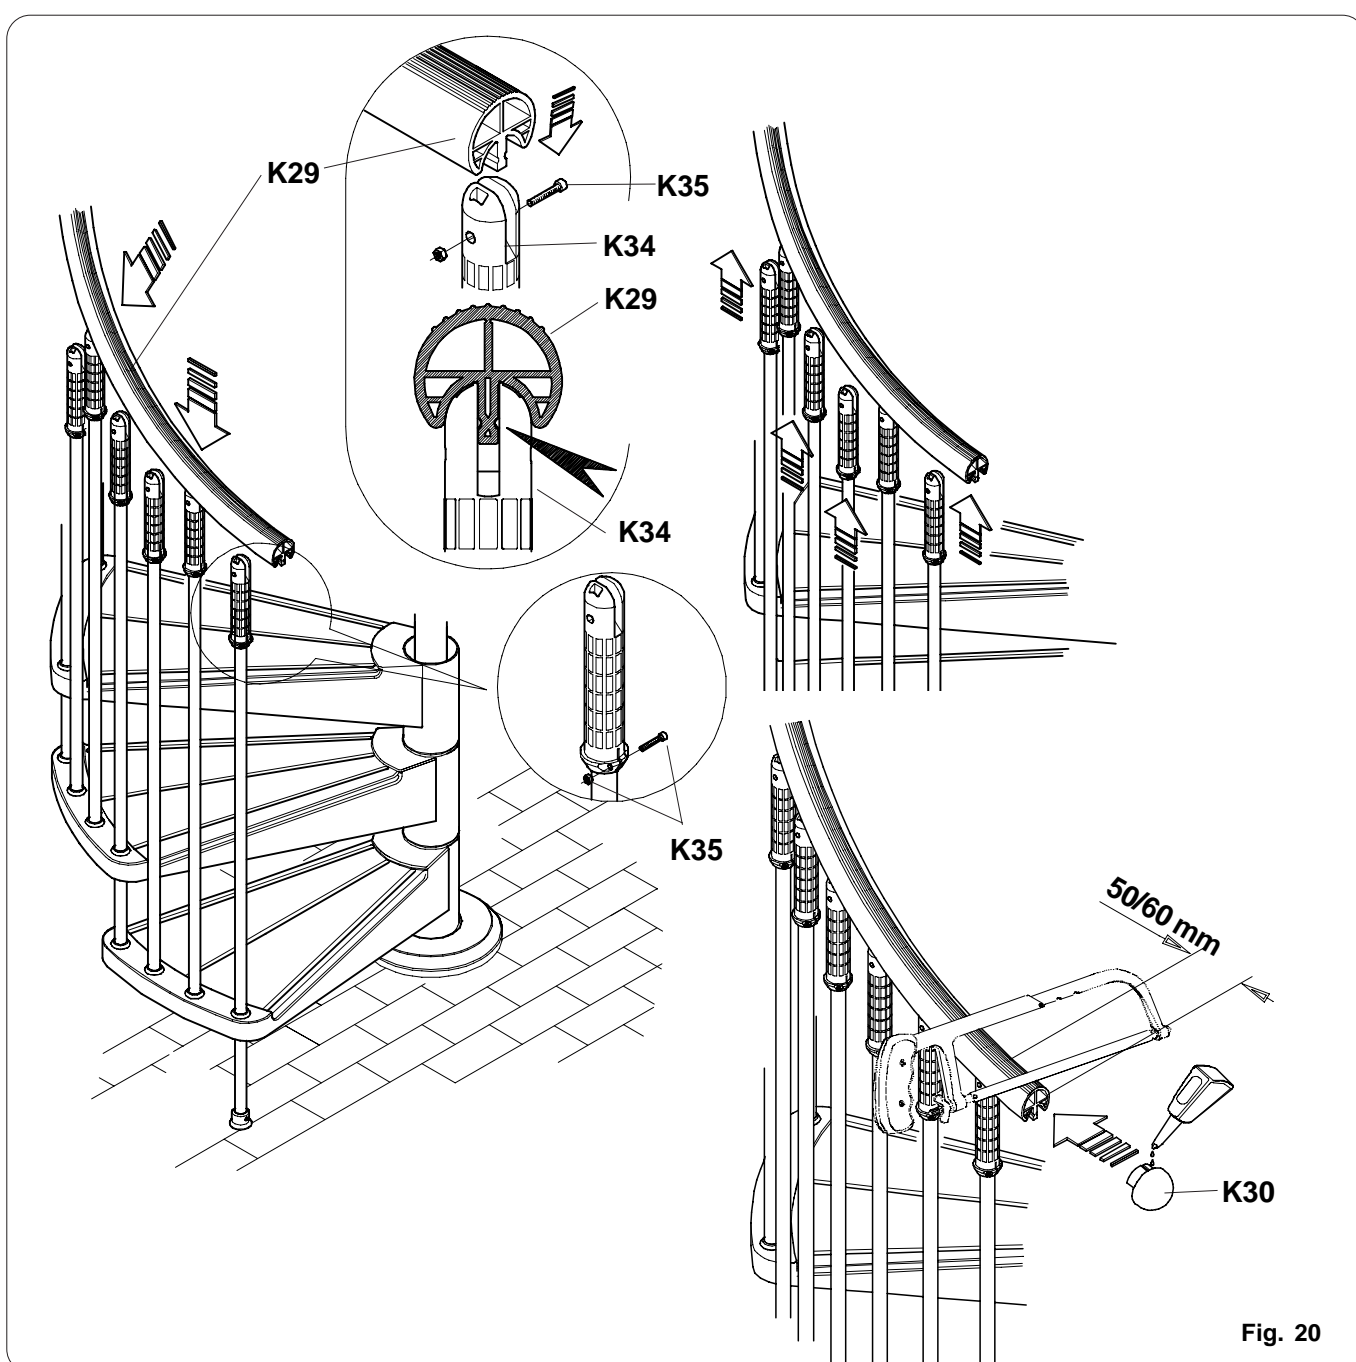

Fig. 20
- Starting from above, insert the central part of the handrail (detail fig. 20) into the **K34** column cover of the second column of each step by making the necessary pressure until it snaps into positions. Avoid getting burnt because of the excessive handrail temperature (in case, wear gloves). Tighten the relevant screws and make sure that the columns remain perfectly vertical. Repeat this operation by inserting the remaining **K34** column covers into the dedicated handrail housing with a movement from below upwards, always making sure that the mechanism snaps into position. Tighten each column cover fully by means of the relevant **K35** screws and nuts and check always that the columns are vertical. By means of a saw, cut the handrail ends leaving a 50/60 mm segment projecting beyond the column and mount the **K30** plugs and anchor them with the available glue (fig. 20). After this operation, check that the columns are not lose in their housing in the step: if necessary, tighten the screws from below the step.